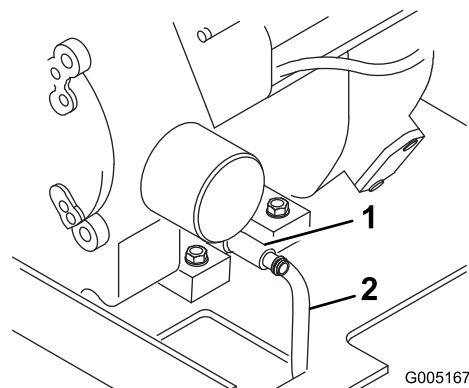

Figure 21
4. Place one end of a hose on the drain valve and the other end in a pan (Figure 21).
5. Open the drain valve by turning it counterclockwise, pulling out as you turn it (Figure 21).